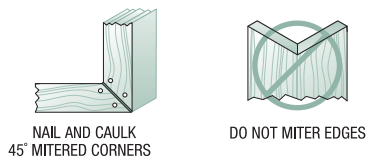

FIG. 3
- 45 degree diagonal cuts are permitted around door and window openings. See Fig 3.